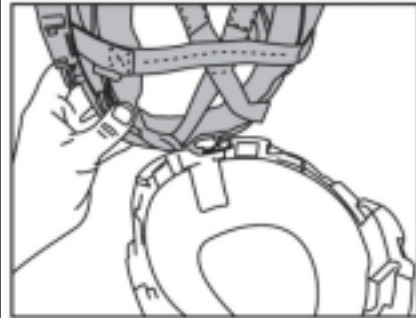
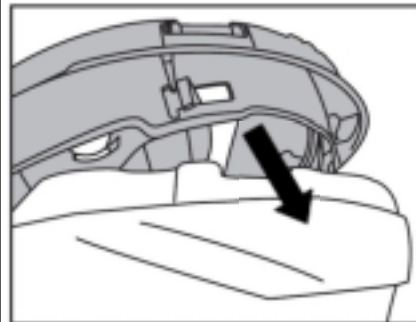

Fig. 4a
Fig. 4b
- (1) Connect the impact liner to the suspension ring (see Fig. 4a and Fig. 4b), starting from the front attachment area.